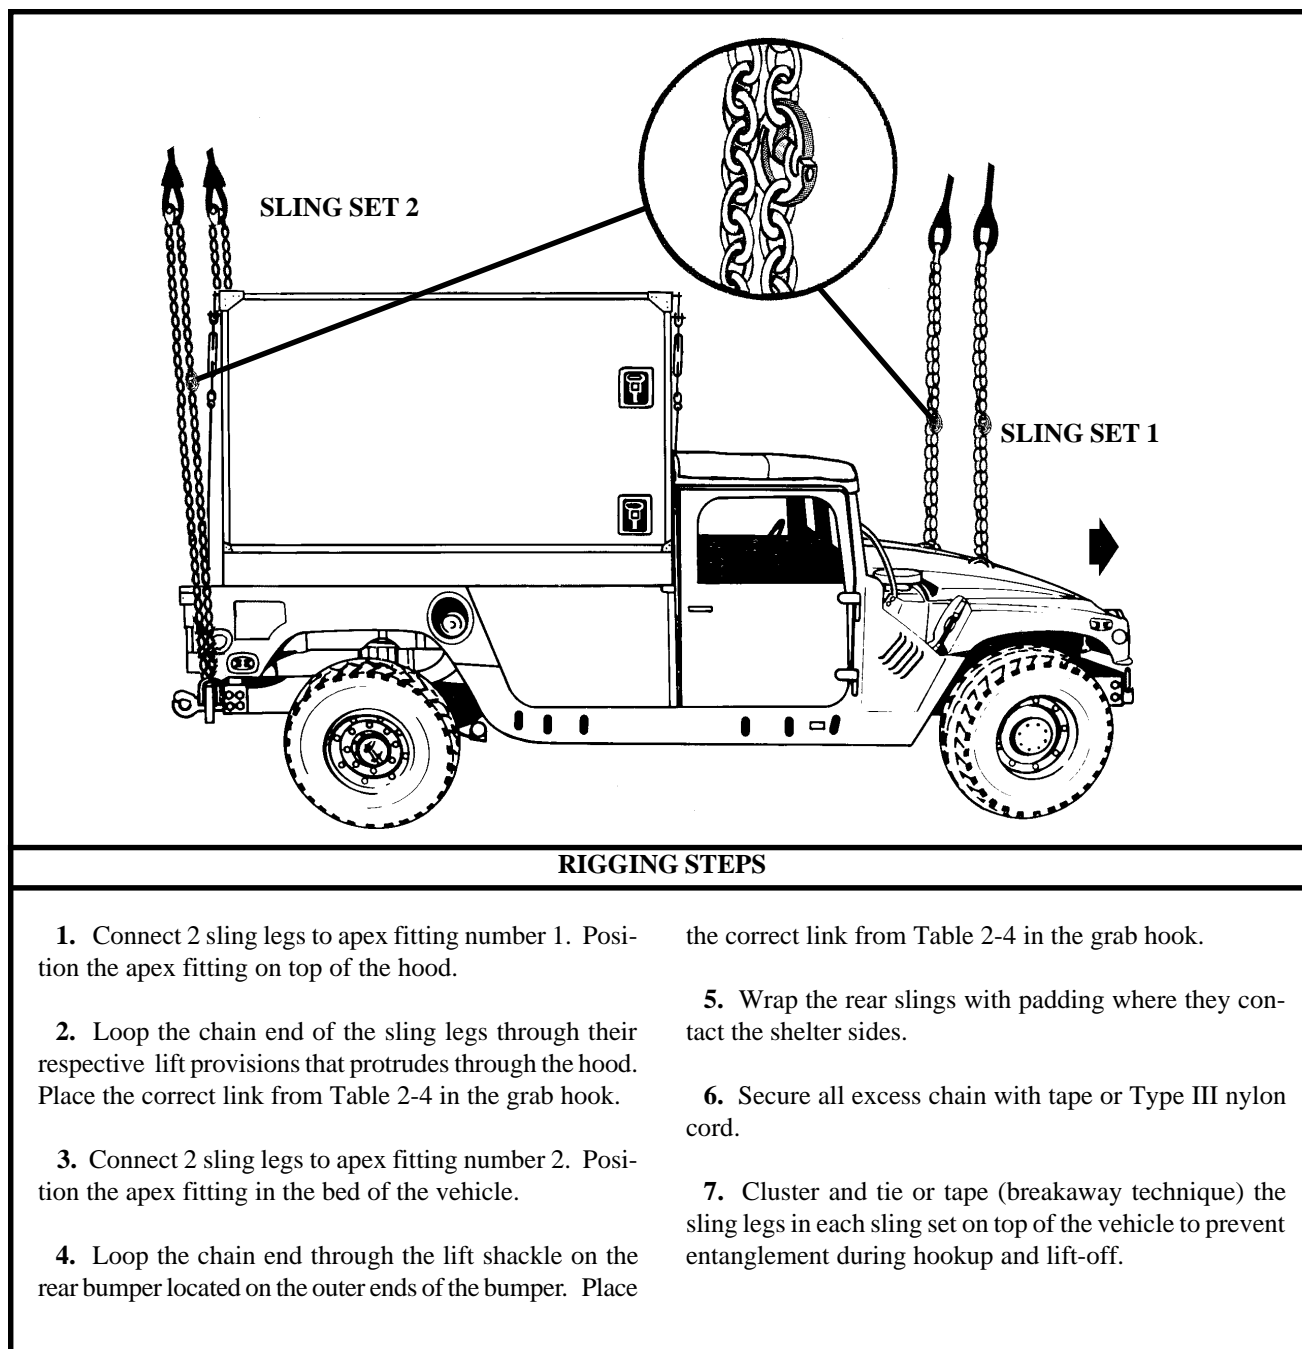

Figure 2-4. M1037 Shelter Carrier with S-250/S-250E Shelter
(2) **Rigging.** Rig the load according to the steps in Figure 2-4.
(4) **Derigging.** Derigging is the reverse of the preparation and rigging procedures in steps d (1) and d (2).